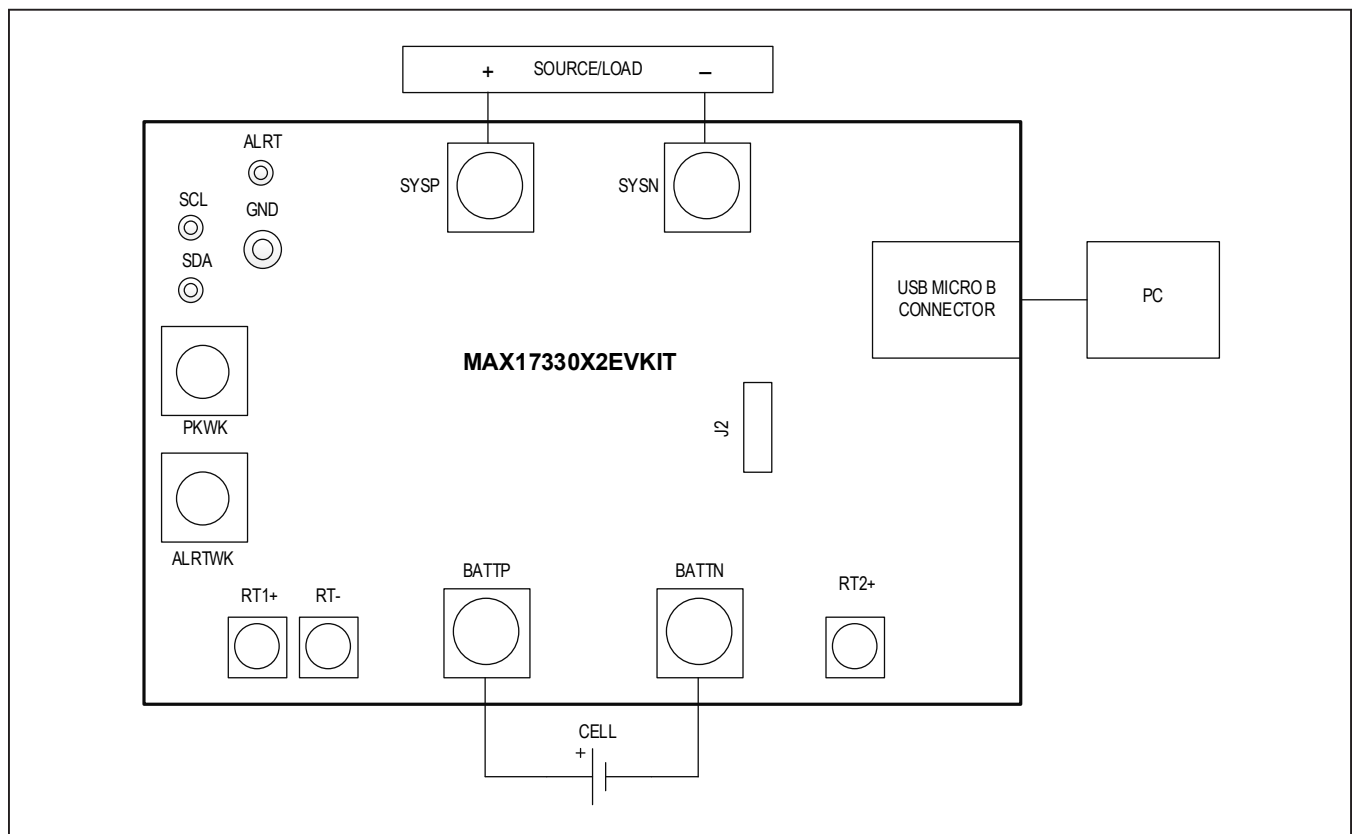

Figure 1. MAX17330 Board Connections
- 5) Make connections to the EV kit board based on Figure 1. The cell connects between the BATTN/ BATTTP pads. The load or charger circuit can be connected between the SYSN and SYSP pads at this time as well.